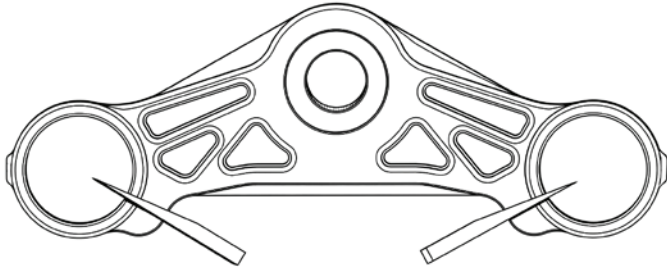

Fig. 9
1. Before installing forks into either Kraus tree, use spreader/shims to open the bore of each tree. **(See fig. 9)**